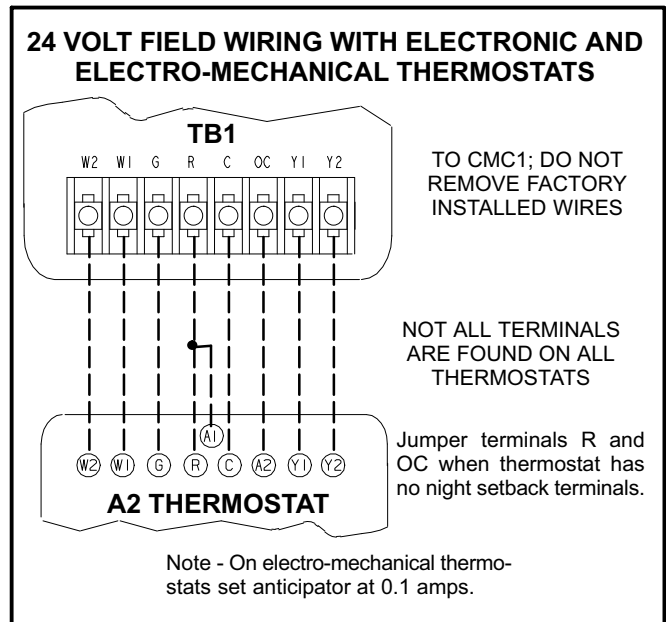

FIGURE 11
- 3- Connect thermostat wiring to TB1 terminal control board on the lower side of the controls hat section. Wire as shown in figure 11 for electro-mechanical and electronic thermostats. If using other temperature control devices or energy management systems see instructions and wiring diagram provided by manufacturer.
For field-furnished blower drives, use tables 3 through 7 to determine BHP and RPM required. Reference table 10 to determine the drive kit number and figure 11 for drive kit specifications..